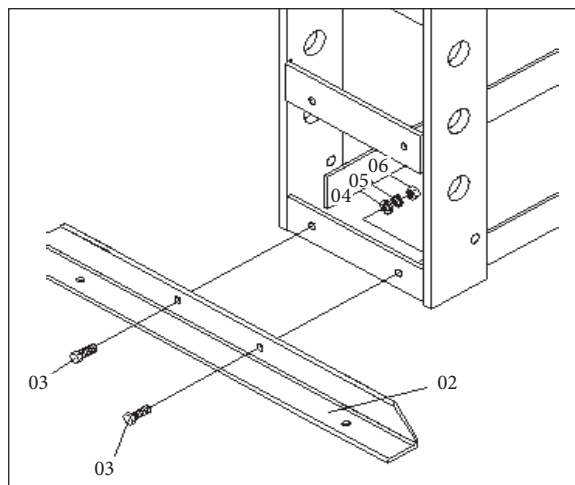

Fig. 1
- Assemble the base to the body frame by bolt M14*40 (03), washer 14 (04) and lock washer 15 (05) (refer to Fig. 1).